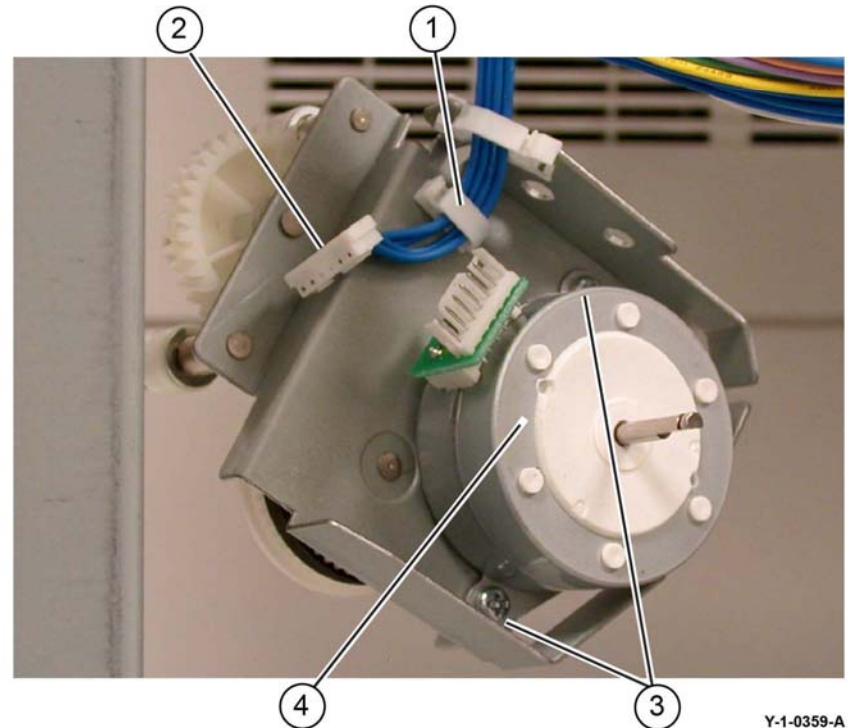

Figure 3 Stapler motor removal
4. Remove the stapler motor, **Figure 3**:
- a. Release the wires from the cable clamp (1).
- b. Disconnect the connector (2).
- c. Remove two screws (3).
- d. Remove the stapler motor (4).